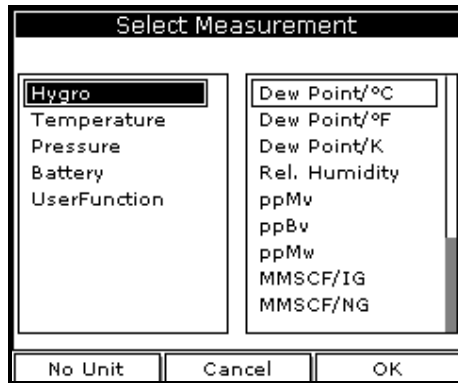

Figure 7: Select Measurement Window
2. Use the arrow keys to scroll to **Measurement** and press [ENTER]. The screen appears similar to Figure 7. The left column displays the five measurement types and the right column displays the measurement units.